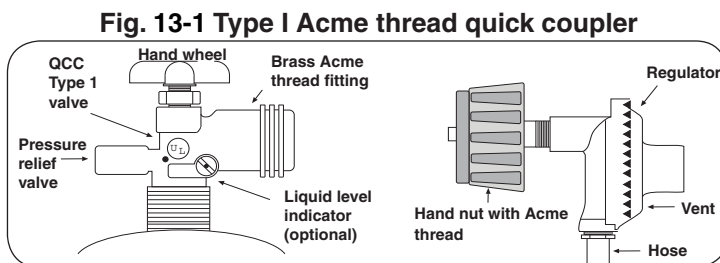

Fig. 13-1 Type I Acme thread quick coupler
- e. The pressure regulator and hose assembly (Fig. 13-1) supplied with this outdoor gas appliance (L.P. models only) must be used. Original and replacement pressure regulator and hose assemblies must be those specified by the manufacturer for connection with a cylinder connecting device identified as Type I by the *ANSI Z 21.58-2005/CGA 1.6-2005* (see PARTS LIST for ordering information).
To disconnect: Turn the hand nut counterclockwise until detached (Fig. 13-1).